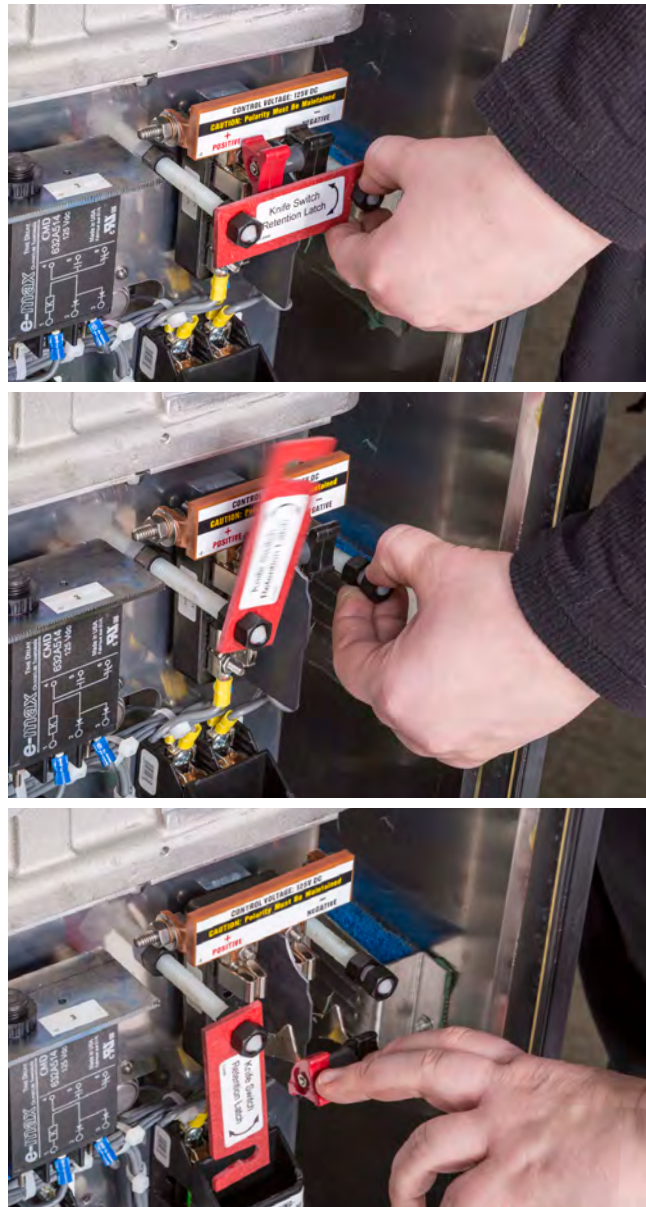

Figure 23. KNIFE switch retainer and KNIFE switch.
- (a) To avoid accidentally energizing the operator after the external connections have been completed, open the control power KNIFE switch, and then swing the KNIFE switch retainer arm out of the way by putting pressure on the red insulated retainer and the black nylon retainer nut. The KNIFE switch retainer arm will “pop up” and can then be swung out of the way. See Figure 23.